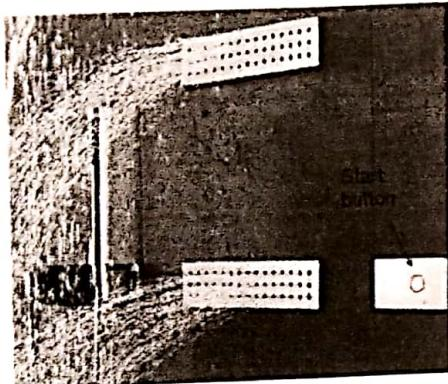

Figure 1
In a gym and fitness centre, there are some shower stalls like the one represented in Figure 1 that have to be automated to generate cycles of contrasting hot (48°C), warm (26°C) and cold (4°C) water sprays simply clicking a single start push button (SB). After clicking the SB, initially warm water flows for 50 s ($H = C = '1'$), then hot water ($H = '1'$, $C = '0'$) for 10 s, and thirdly cold water ($H = '0'$, $C = '1'$) for 20 s, and this cycle is repeated one more time; finally the system goes idle ($H = C = '0'$) to wait for another user service. During the operation the R_LED turns on.